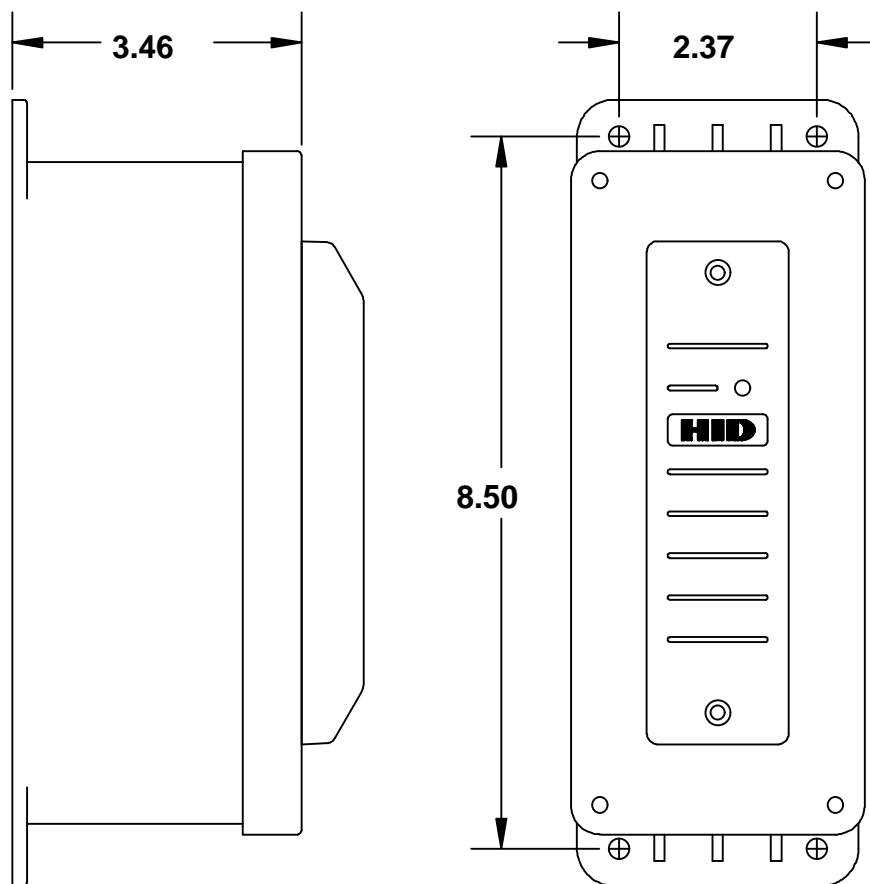

FIGURE 2
1. Determine an appropriate location for the junction box. Attach the junction box to the mounting surface using the 4 holes shown in figure 2.